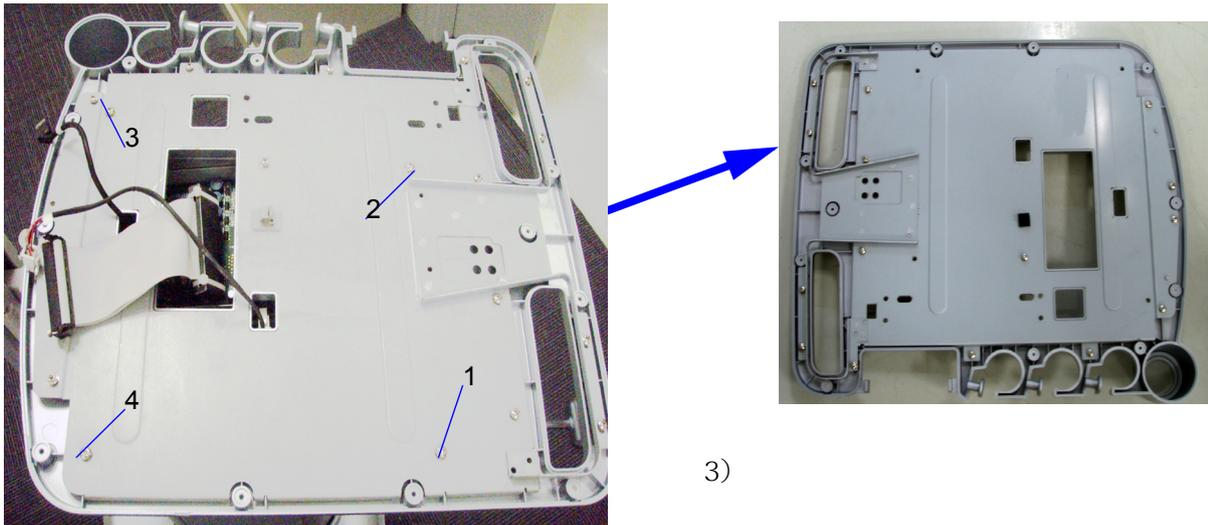

Figure 8-15 Bottom Cover Assy Disassembly
- 3.) Unscrew 4 screws [M5X30] and remove bottom cover assy, refer to Figure 8-15 on page 28.